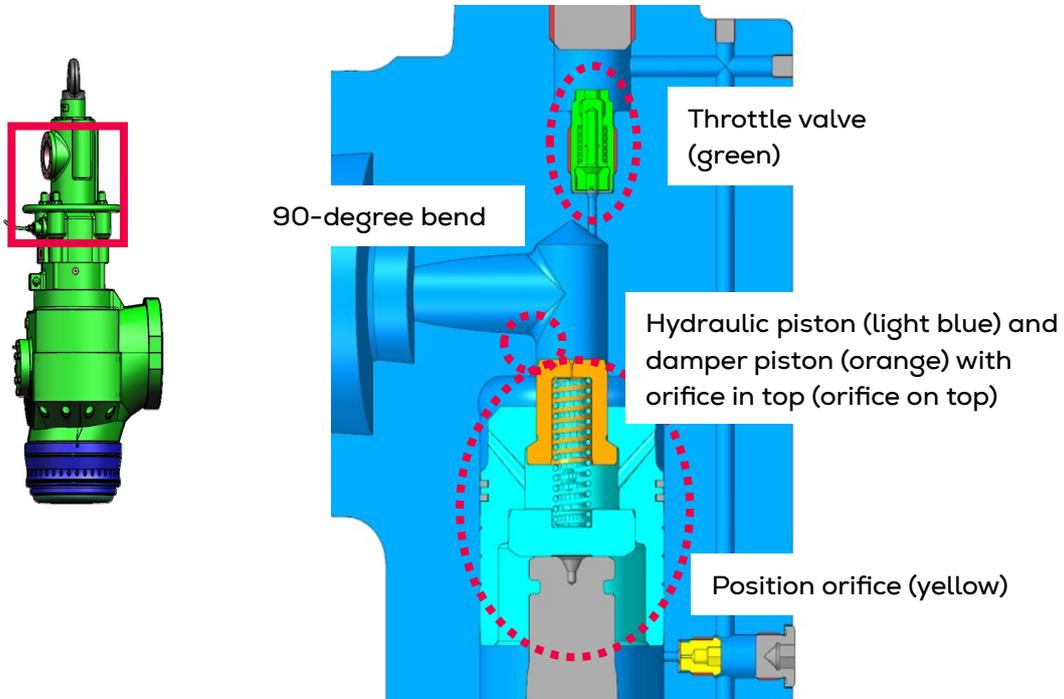

Fig. 1: Critical components to inspect: 90-degree bend, throttle valve, hydraulic piston, orifice on top of damper piston, and position orifice
3. Exhaust valve hydraulic oil cylinder (90-degree bore, throttle valve, position orifice, hydraulic piston, and orifice on damper piston) (Table 4, Figs. 1 and 2)